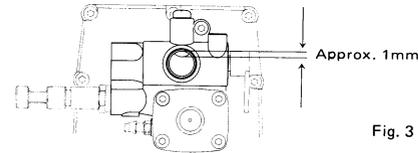

Fig. 3
- 3) Now re-set the throttle very slightly open from the idling position (See Fig. 3) and turn the propeller slowly clockwise, by hand, until compression is felt.
- 1) Start the engine with the throttle open just above the idle setting (see Fig. 3), then open the throttle fully and run the engine for about 3 seconds, only, at near maximum r.p.m. Now open the needle-valve one half
- 2) Set the throttle slightly open from the idling position (see Fig. 3) and start the engine in the normal way. It is preferable to have the throttle only slightly open, to avoid unnecessarily high revolutions when the engine starts.